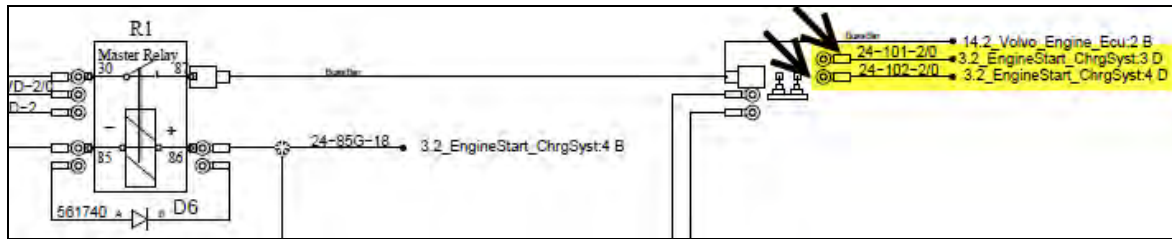

Figure 8
- In the electrical compartment, **connected to the junction block** (Figure 8).